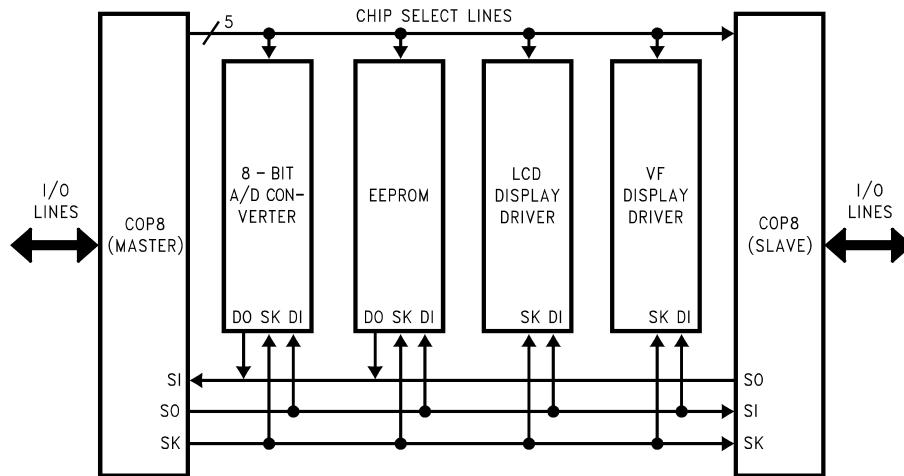

Figure 5-23. MICROWIRE/PLUS Application
MICROWIRE/PLUS is a serial SPI compatible synchronous communications interface. The MICROWIRE/PLUS capability enables the device to interface with MICROWIRE/PLUS or SPI peripherals (i.e. A/D converters, display drivers, EEPROMs etc.) and with other microcontrollers which support the MICROWIRE/PLUS or SPI interface. It consists of an 8-bit serial shift register (SIO) with serial data input (SI), serial data output (SO) and serial shift clock (SK). Figure 5-23 shows a block diagram of the MICROWIRE/PLUS logic.
Setting the BUSY bit in the PSW register causes the MICROWIRE/PLUS to start shifting the data. It gets reset when eight data bits have been shifted. The user may reset the BUSY bit by software to allow less than 8 bits to shift. If enabled, an interrupt is generated when eight data bits have been shifted. The device may enter the MICROWIRE/PLUS mode either as a Master or as a Slave. Figure 5-23 shows how two microcontroller devices and several peripherals may be interconnected using the MICROWIRE/PLUS arrangements.